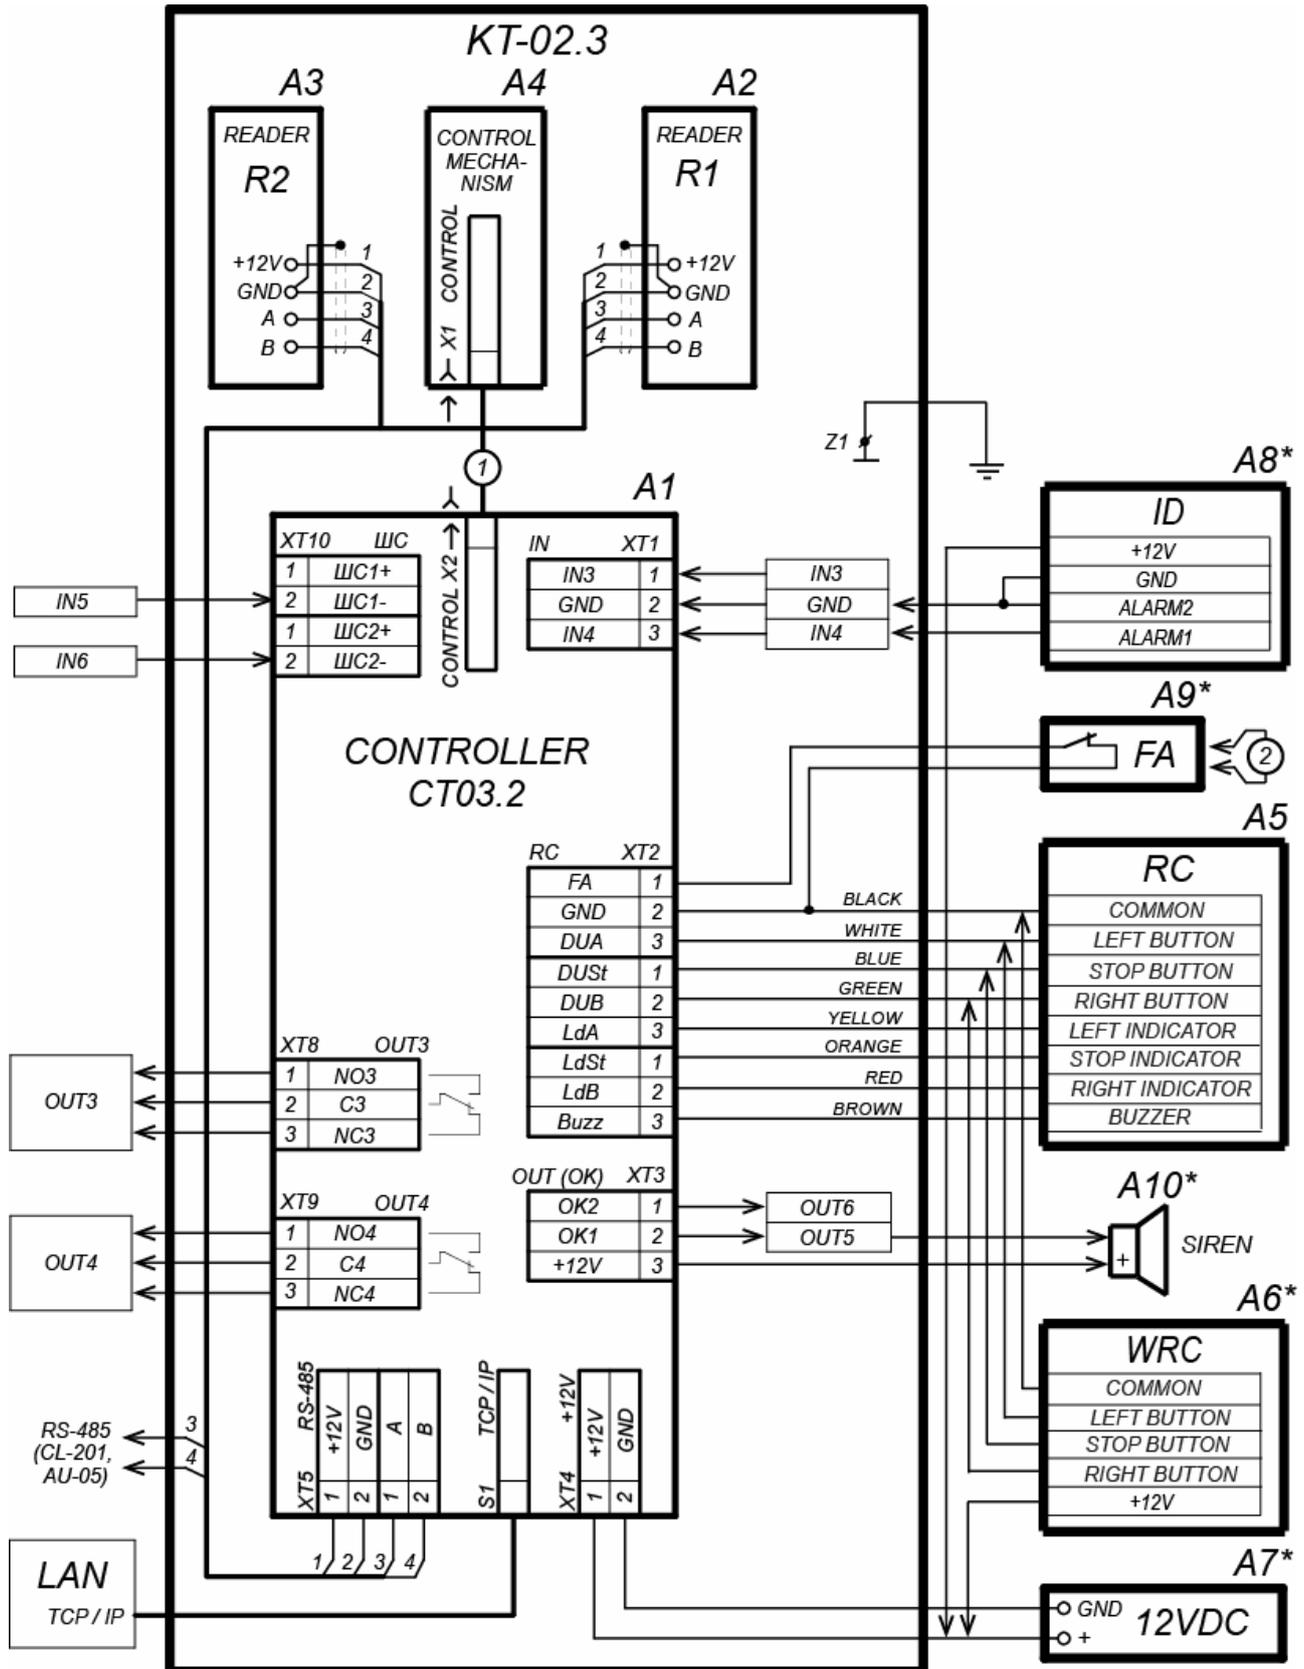

Figure 12. Connection layout for KT-02.3 and optional equipment⁹
The connector block position on the IP-Stile controller board is shown on Figure 5. Connector block layout is shown in Table 1. Connection layout is shown Figure 12. Types of cables are stated in Table 4. Follow this sequence during reader installation:
10. Connect the power cable (12) to the **XT4** connector block on the controller board. Connect the cable of the RC-panel (10) to the **XT2** connector block as per Figure 12. If necessary, connect cables of other devices to the corresponding connector blocks.